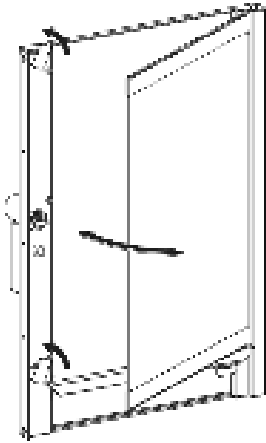

Fig. 23
- Tilt the internal glass (fig. 23).